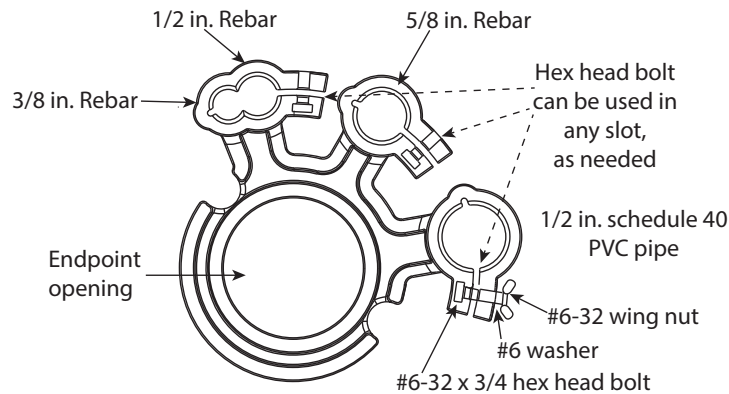

Figure 15: Support bracket (knuckles)
For pipe installations, the **Pipe Install Kit (PN: 64394-003)** with mounting support bracket (Figure 15) is available. The bracket is designed for use with a 3/8, 5/8 and 1/2 inch rebar or 1/2 inch schedule 40 PVC pipe.
2. Slide the mounting support bracket over the rebar/stake/pipe and secure using the enclosed hex head bolt, washer and wing nut provided with the bracket. The hex head bolt fits any slot. See Figure 15.